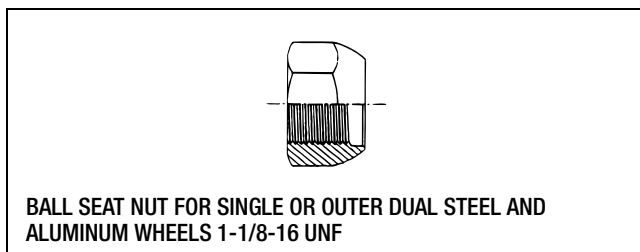
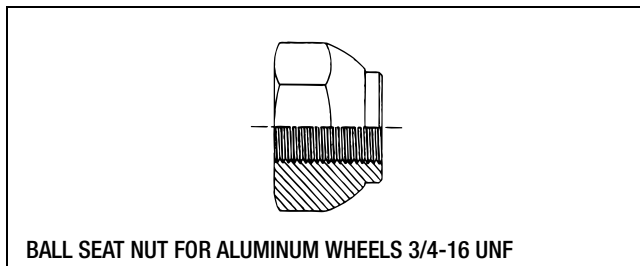

Figure 3.11
Figure 3.12
- The 1-1/8-16 UNF stud on front hubs uses the same nut as used on rear outer wheels. However, the 3/4-16 UNF front stud requires an Alcoa 5995R and 5995L nut. Figure 3.11 and Figure 3.12.